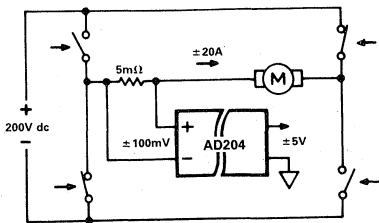

Figure 19. Motor Control Current Sensing
**Motor Control Isolator.** The AD202 and AD204 perform very well in applications where rejection of fast common-mode steps is important but bandwidth must not be compromised. Current sensing in a full-wave bridge motor driver (Figure 19) is one example of this class of application. For 200V common-mode steps (1µs rise time) and a gain of 50 as shown, the typical response at the isolator output will be spikes of ±5mV amplitude, decaying to zero in less than 100µs. Spike height can be reduced by a factor of four with output filtering just beyond the isolator's bandwidth.